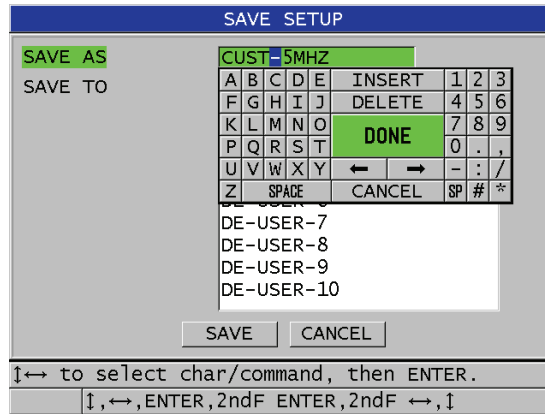

Figure 12-6 Saving the setup
- b) In the **SAVE SETUP** screen, enter the desired custom setup file name (see Figure 12-6 on page 218).